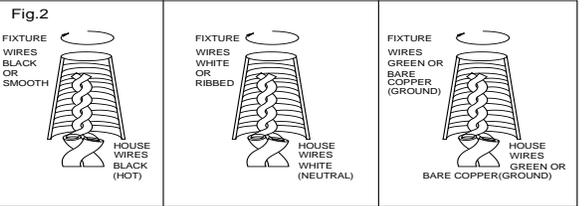

Fig. 3
6. Align back plate (H) onto mounting plate (B) and secure with the screws (G).
7. To prevent moisture from entering the outlet box and causing shortage, use clear caulking (i.e. Indoor/Outdoor Silicone Sealant) to outline the outside of fixture back-plate where it meets the wall leaving space at bottom to allow moisture a means to escape. (Fig.3)